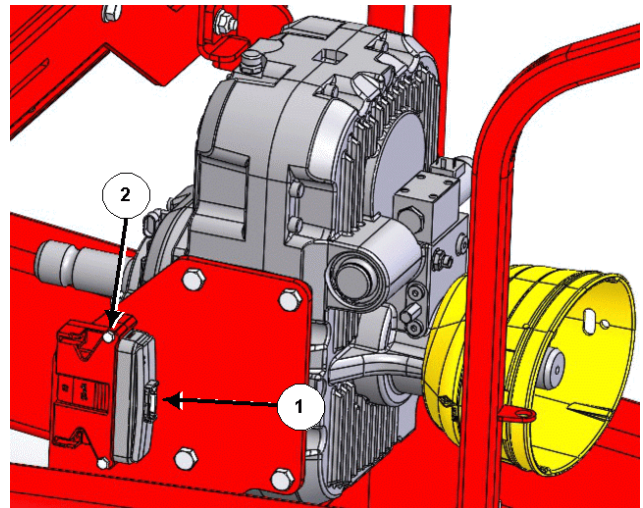

Figure 7: Fasten the controller to the mount
4. Fasten the controller (1) to the gearbox mount, see *Figure 7*.
- b. Place a $\frac{1}{4}$ " x 2- $\frac{3}{4}$ " hex bolt (2) through both holes.